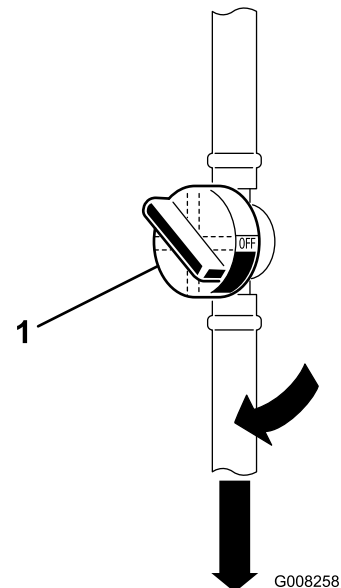

Figure 10
1. Open the fuel shut-off valve located between the fuel tank and the engine (Figure 10).